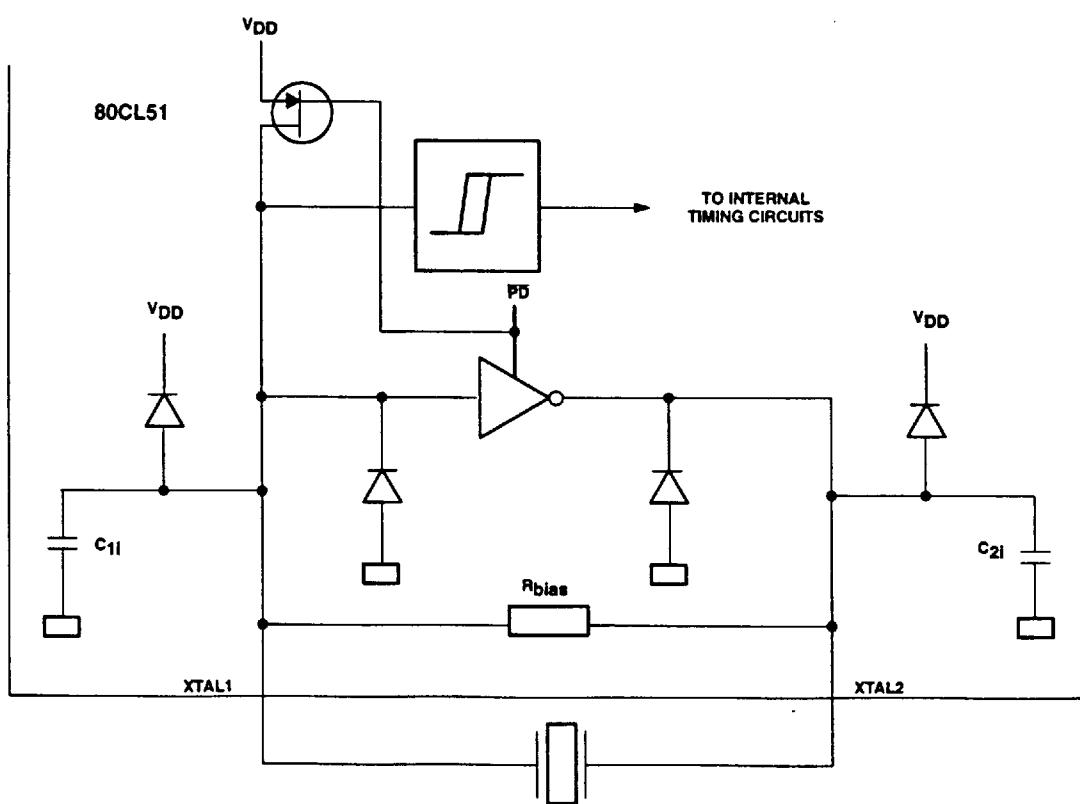
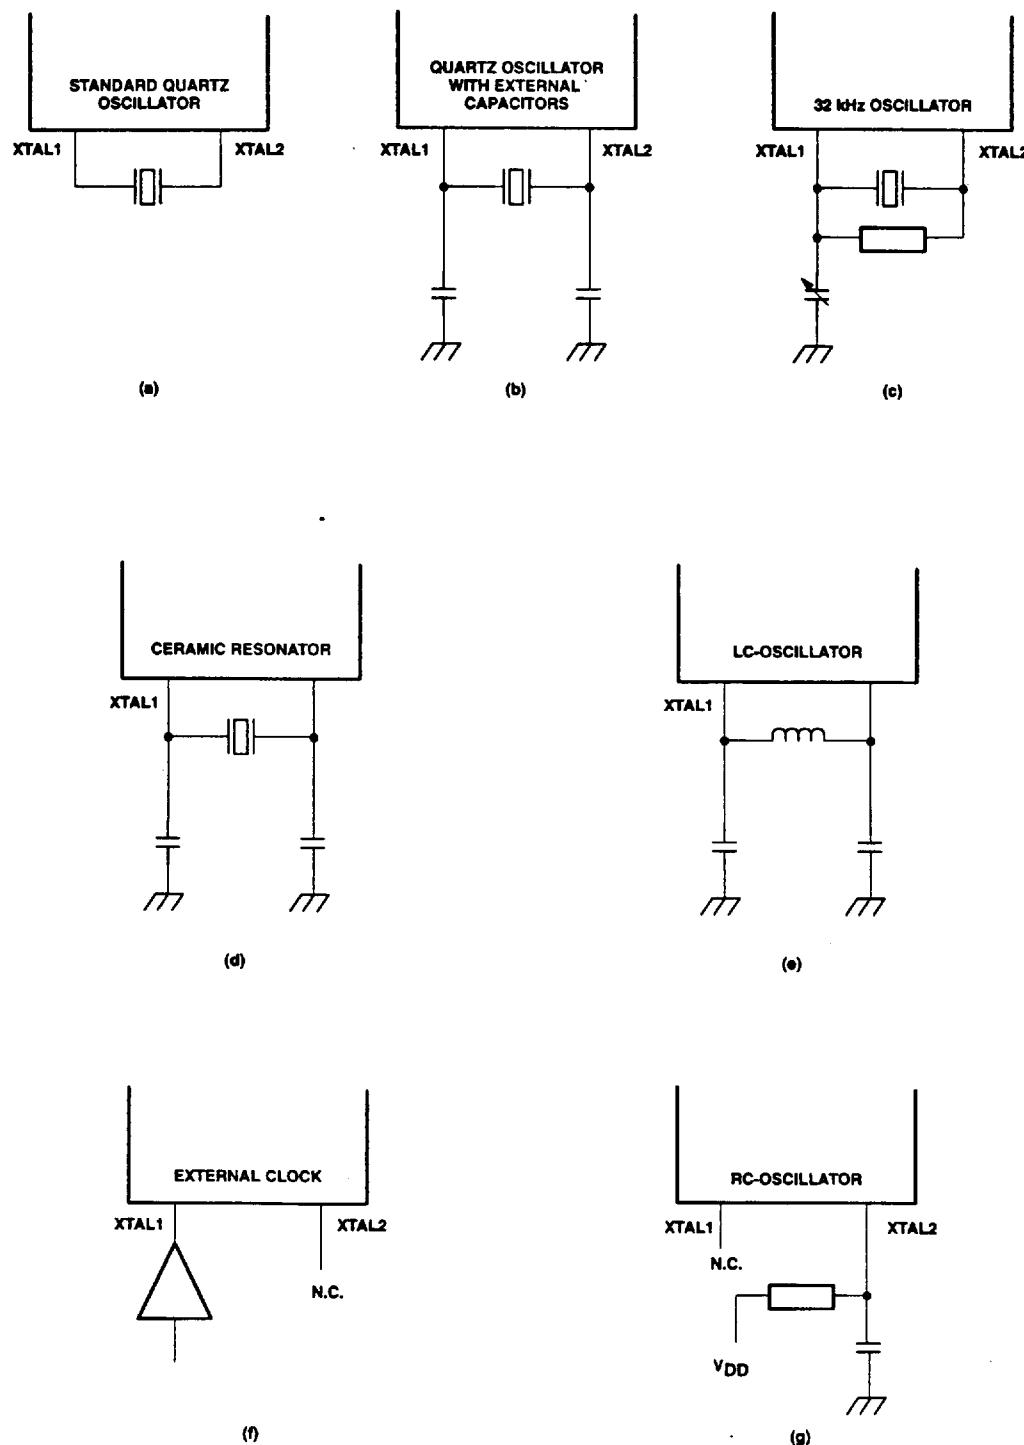

Figure 13. Oscillator
Figure 14. Alternative Oscillator Configurations
The on-chip circuitry of the 80CL51 is a single-stage inverting amplifier biased by an internal feedback resistor (Figure 13). For operation as standard quartz oscillator, no external components are needed except at 32 KHz. When using external capacitors, ceramic resonators, coils and RC networks to drive the oscillator, five different configurations are supported (see Figure 14 and oscillator options).
in Figure 14(f). There are no requirements on the duty cycle of the external clock, since the input to the internal clocking circuitry is split sing a flip-flop.
1.7.1 Oscillator options (see Figure 14)
Osc. 1: : Figure 14(c): An option for 32 kHz clock applications with external trimmer for frequency adjustment. A 4.7 MQ bias resistor is needed for use in parallel with the crystal.
Osc. 2: Figure 14(e): An option for low-power, low-frequency operations using LC components.
RC: Figure 14(g): An option for an RC oscillator.